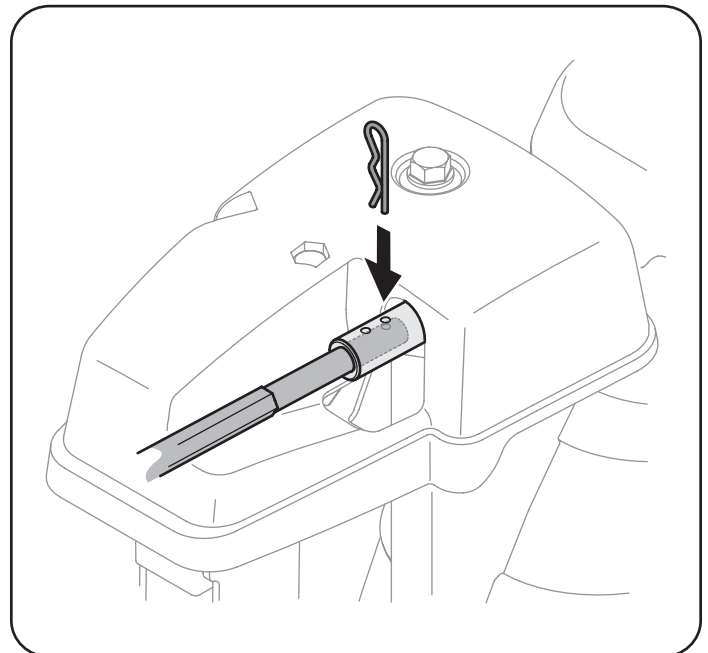

Figure 10
9. Now push the chute control rod back towards the handle panel until the hole in the rod lines up with the hole in the chute control input closest to the chute control head. Insert the cotter pin. See Figure 10.